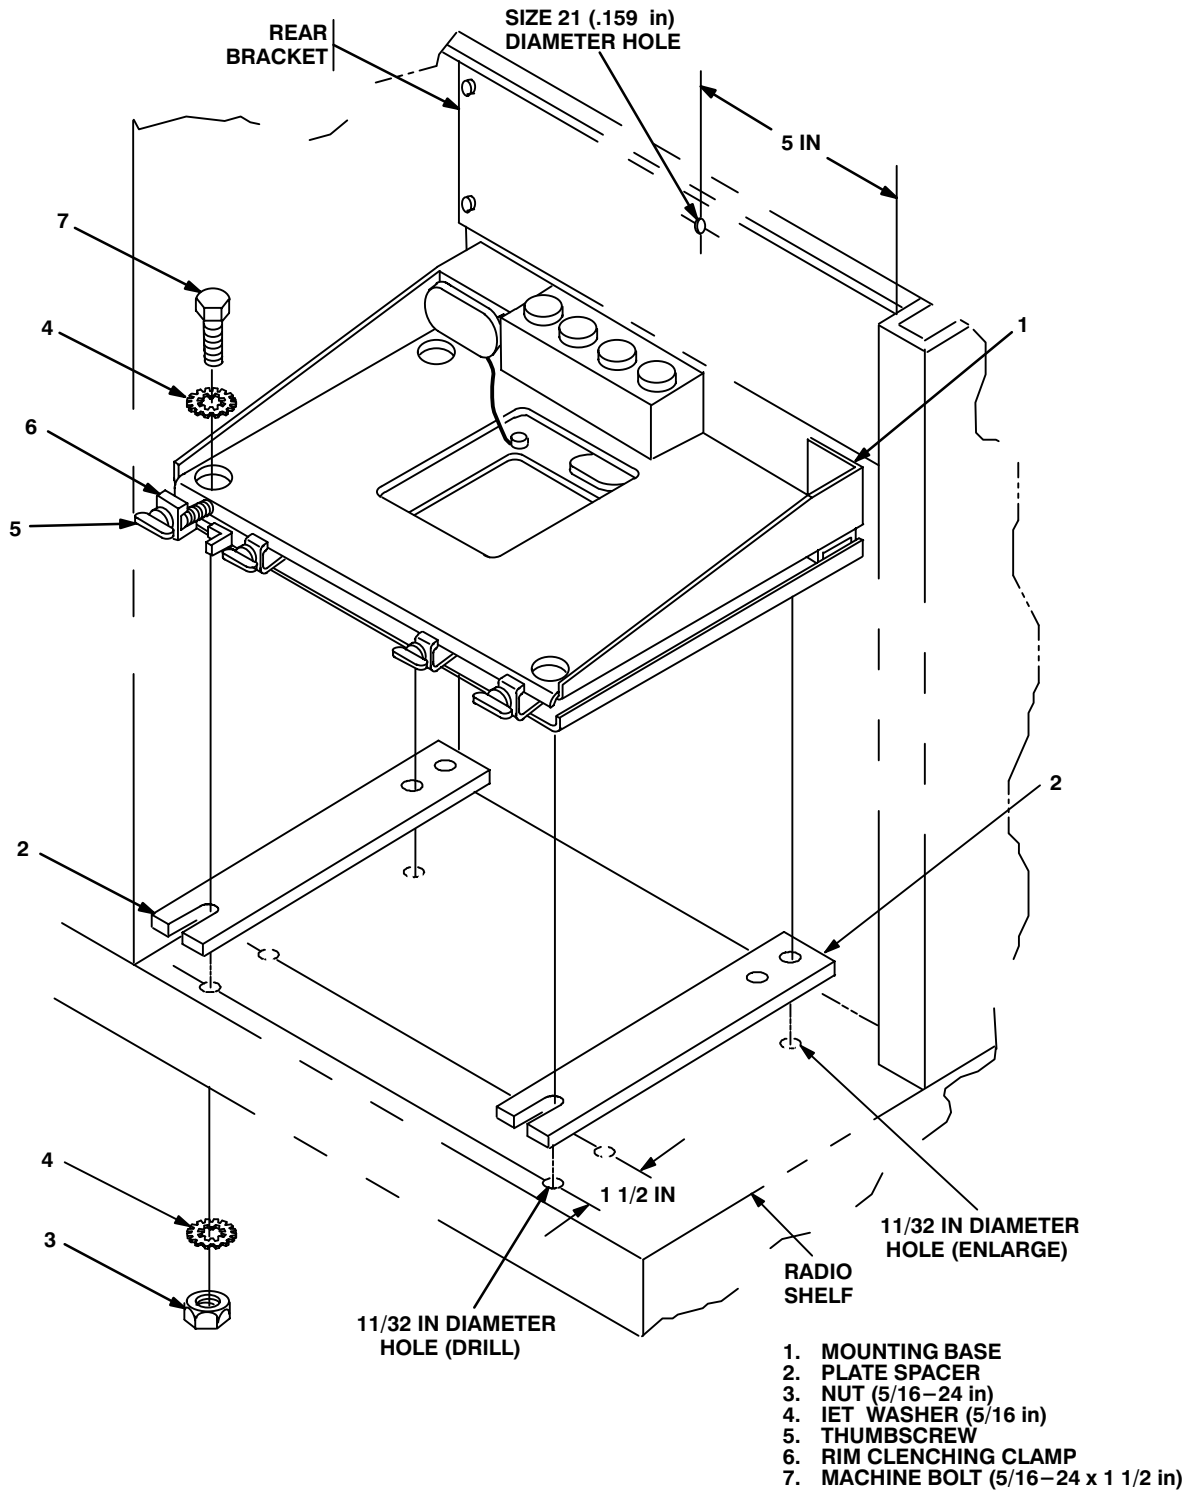

Figure 5-4. Mounting Base Installation: Curbside Equipment Rack
5.2 Installation of Mounting Base, Electrical Equipment MT-6352/VRC (mounting base). Remove and retain attaching bag of 5/16 in mounting hardware for installation. To insure good electrical grounding, any rust, corrosion or paint around mounting holes in radio shelf should be removed before installing the mounting base. See figure 5-4 and perform the following steps.